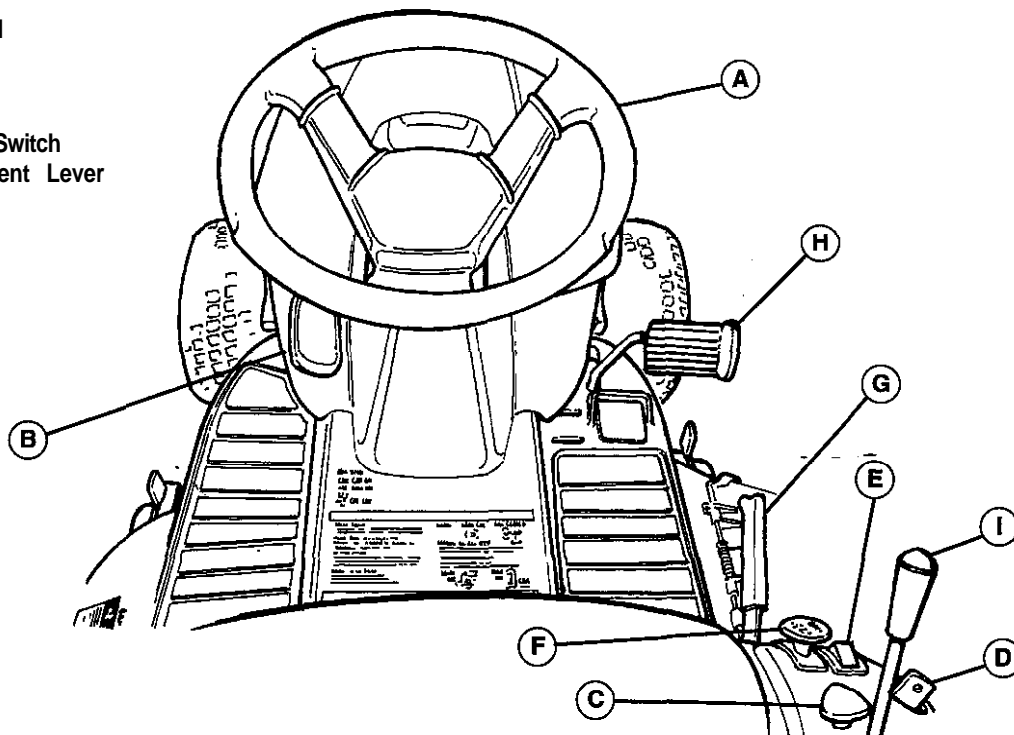
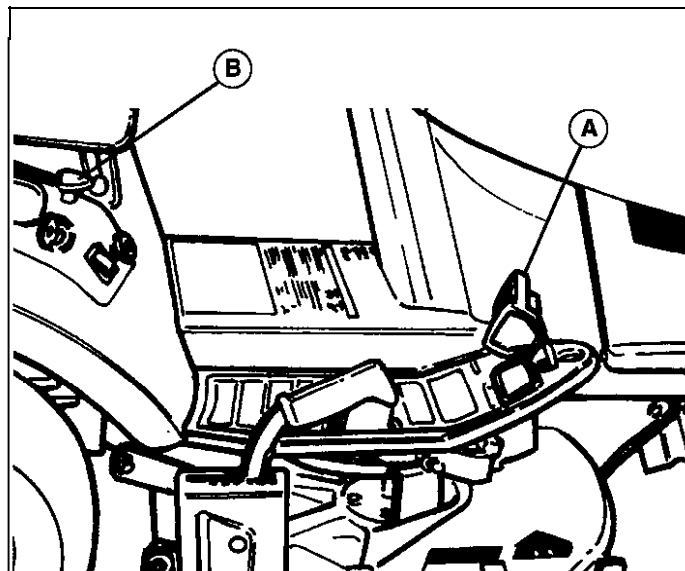

Figure 3. Tractor & Mower Controls - Gear Model
Figure 8. Clutch/Brake Pedal Operation
1. Set the mower height adjustment lever (A, figure 8) to the desired cutting height.
On gear model, depressing the pedal (A, figure 8) halfway disengages the transmission drive. Depressing pedal further applies the tractor brake.
Parking brake can be applied by fully depressing the brake pedal (A, figures 8), then pulling up on the parking brake knob (B, figure 8).
On gear models, put the gear selector (I, figure 3) in neutral.
On gear model, ground speed is selected by fully depressing the clutch/brake pedal, then moving the gear selector (I, figure 3) to the appropriate position. Most mowing is done in 3rd or 4th gear with engine speed between $\frac{3}{4}$ and full speed. If the terrain is rough, hilly or sloping, use first or second gear. If the grass is wet or over three inches (76mm) high, use full engine speed (with low gear) so the mower will have enough power to cut the grass. Shift gears **only** with Tractor stopped and clutch/brake pedal fully depressed.
4. On **hydro model**, release the parking brake by depressing the brake pedal (A, figure 8), then press down on either pedal (I or J, figure 2) for the desired direction and speed of travel.
On **gear model**, fully depress clutch/brake pedal (A, figure 8) to release the parking brake and disengage the clutch. Use the gear selector (I, figure 3) to select the gear best suited for conditions, then slowly release clutch/brake pedal to engage clutch and start tractor in motion.
On **gear model**, press the clutch/brake pedal (A, figure 8) down only far enough to disengage the clutch to make a gradual stop. For a more rapid stop, press pedal down fully to apply the brake.
2. Engage the parking brake by pulling up on the knob (B, figure 8) with the brake pedal fully depressed.